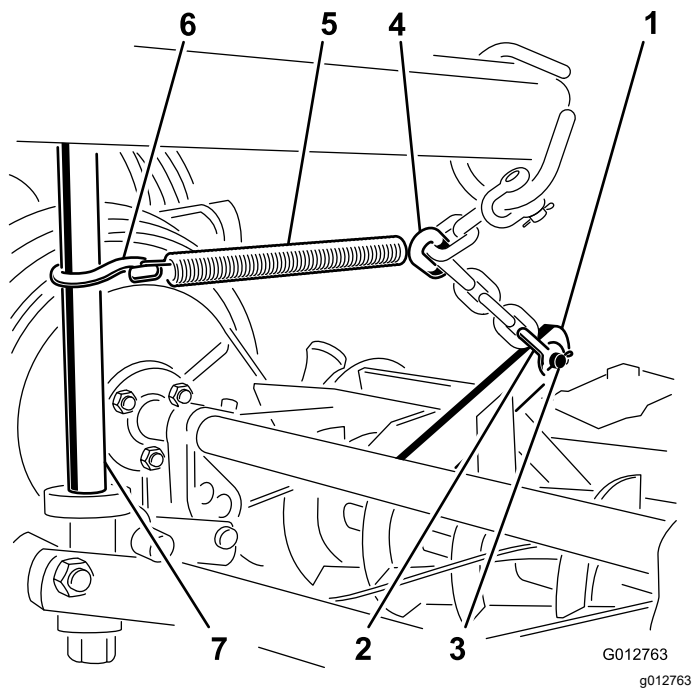

Figure 14
- On the remaining mowers, secure the lift chains to the mower mounting bracket with the long shackles, clevis pins, and cotter pins (Figure 14).
- Hook the spring to the fifth link in the chain from the mower and secure the other end of the spring to the lift bail with an S-hook (Figure 14).